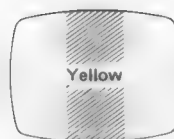

Figure 4
- (1) Produce a yellow raster by short-circuiting the base and the emitter of Q653 (B-DRIVE-1) with a short lead.
- (2) Loosen the deflection yoke screw and move it forward. Make certain that the yellow bar is at the horizontal center. If necessary, adjust purity magnets to center it.
- (3) Slide the yoke backwards to produce a uniform yellow raster (Figure 4).
- (4) Using the same procedure as for Preliminary Adjustment, produce a red, blue, and green primary color raster and make sure no contamination is observed for each color.
- (5) If necessary, repeat the above steps.
- (6) Tighten the yoke in position.